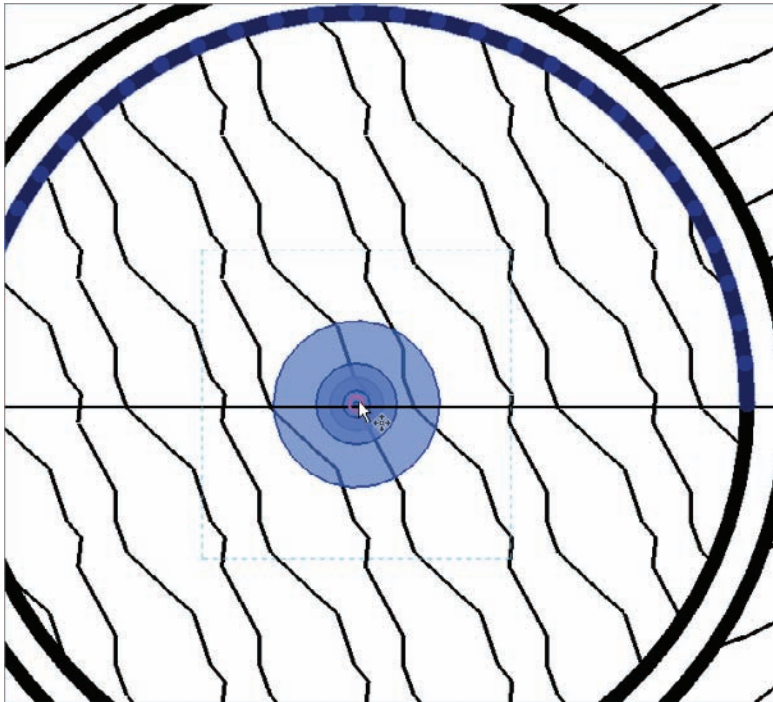

FIGURE 9.35 Moving the fixture to the correct location
5. Place the light approximately as shown in Figure 9.35. Click Modify.
6. Move the light to the center of the radial soffit. This time, you can use snaps (see Figure 9.35).